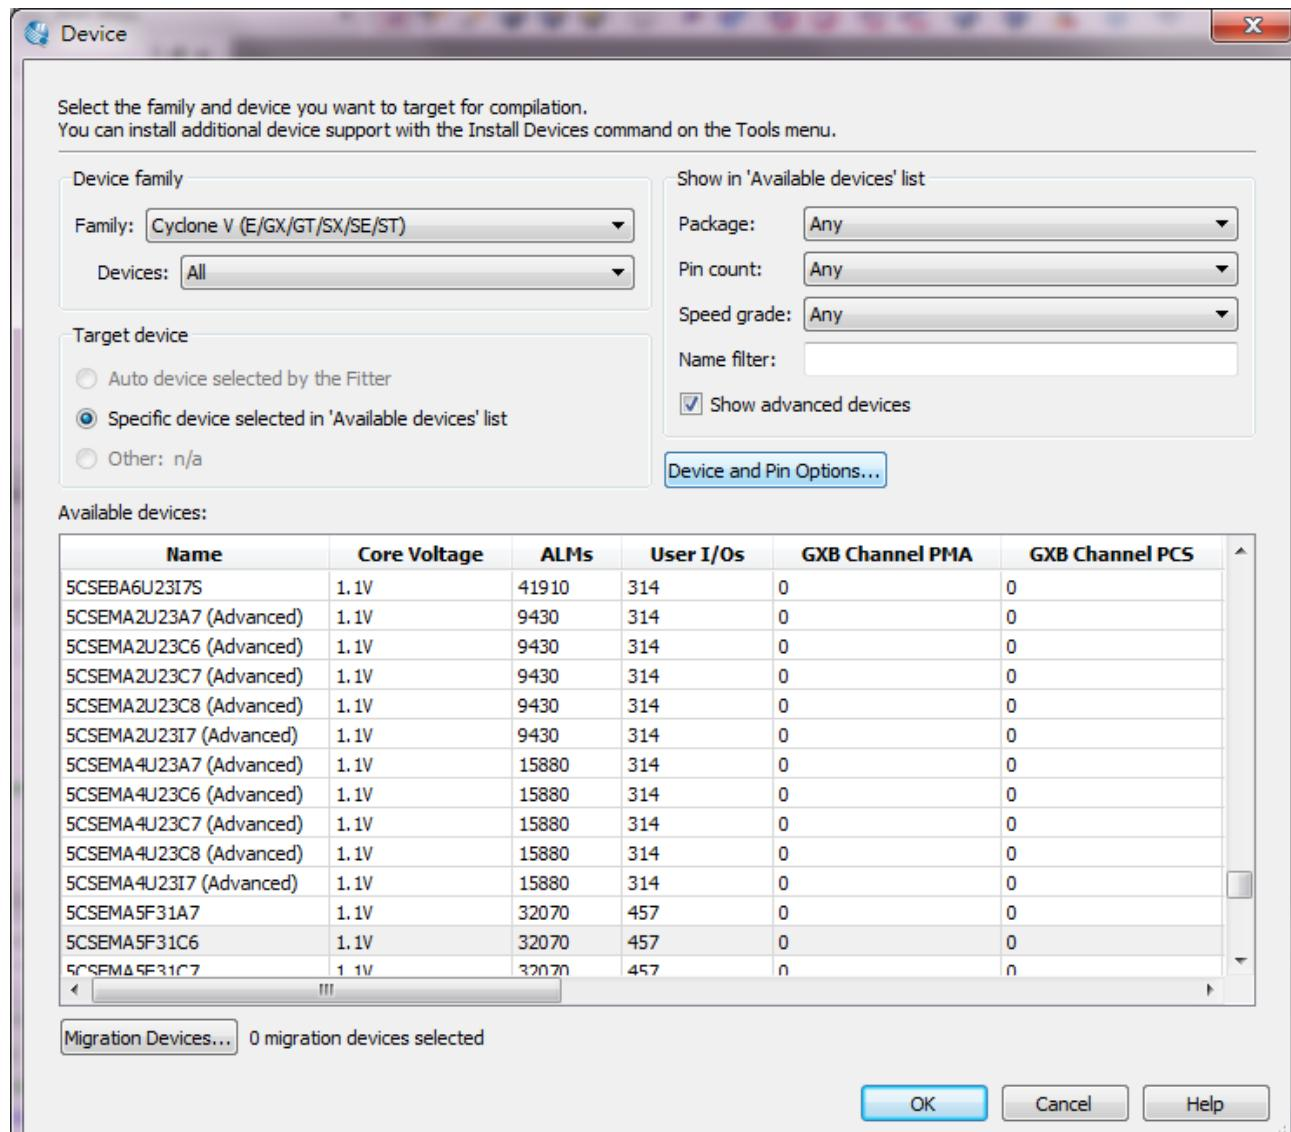

Figure 4-9 Device and Options
3. If other LEDs emit faintness light, Choose Assignments > Device. Click Device and Pin Options. See **Figure 4-9**.